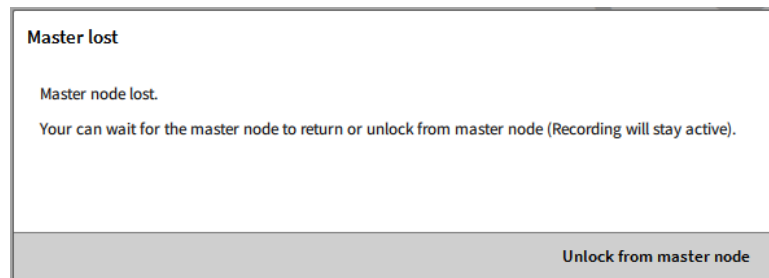

Fig. 15.28: Software feedback on slave device if slave node loses network connection
- The affected slave device adds a *Node Lost* marker to the Event List and opens a *Master Lost* pop-up menu (see Fig. 15.28).
- All slave devices add a *Node Lost* marker to the Event List and open a *Master Lost* pop-up menu (see Fig. 15.28).